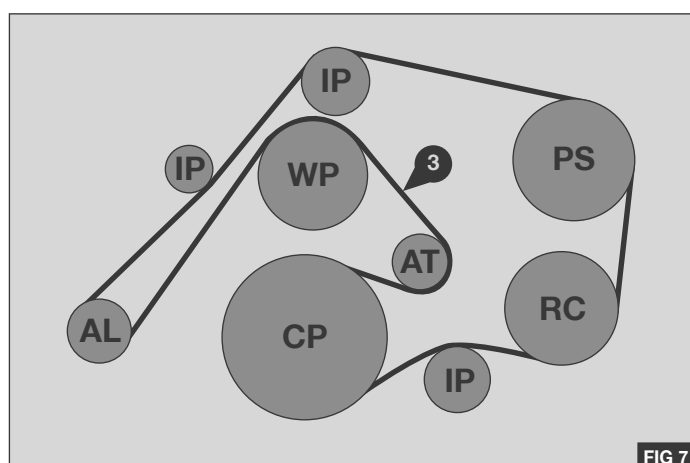

FIG 7
1. Fit the supplied replacement poly groove engine drive belt (3) to the engine in the same configuration in accordance with the original manufacturers design - Fig.7